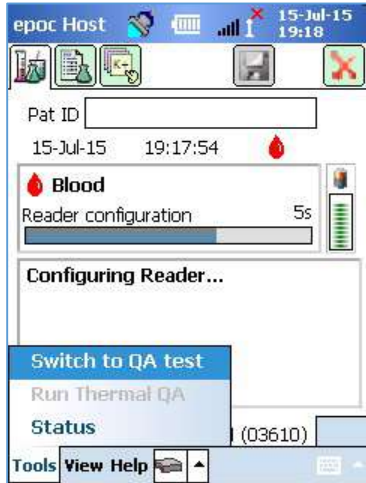

Fig. 14.
1. Start a QA test by selecting the **Run QA test** option, or switch to QA test while running a blood test (Fig.14).